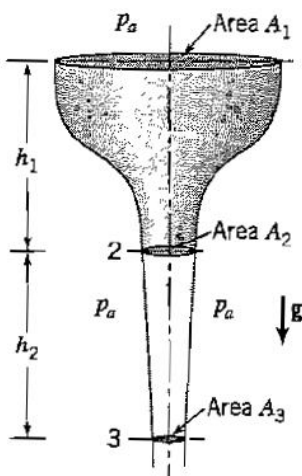

Figure P4.46
4.46 Water issues steadily without loss from the smooth, circular funnel shown in Figure P4.46 under the action of gravity.